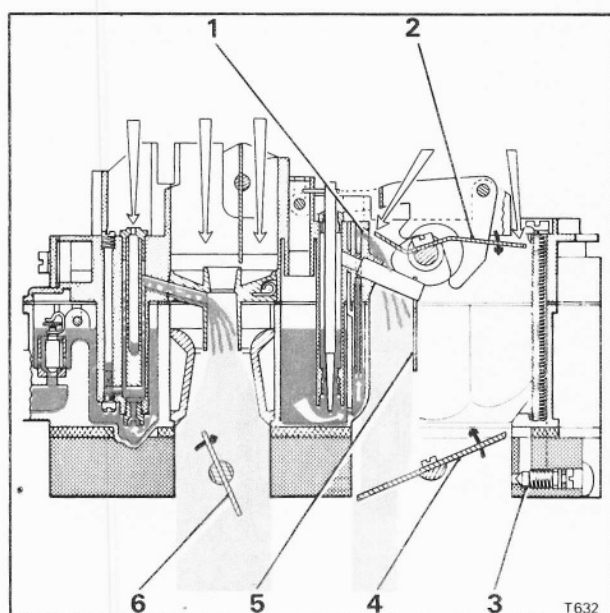

Fig. K55 Secondary stage commencing operation
The flow of air through the secondary stage throttle butterflies is balanced by means of the regulating screws (see Fig. K55, item 3). **These screws are set by the carburetter manufacturer using special equipment, therefore, they must not be adjusted.**